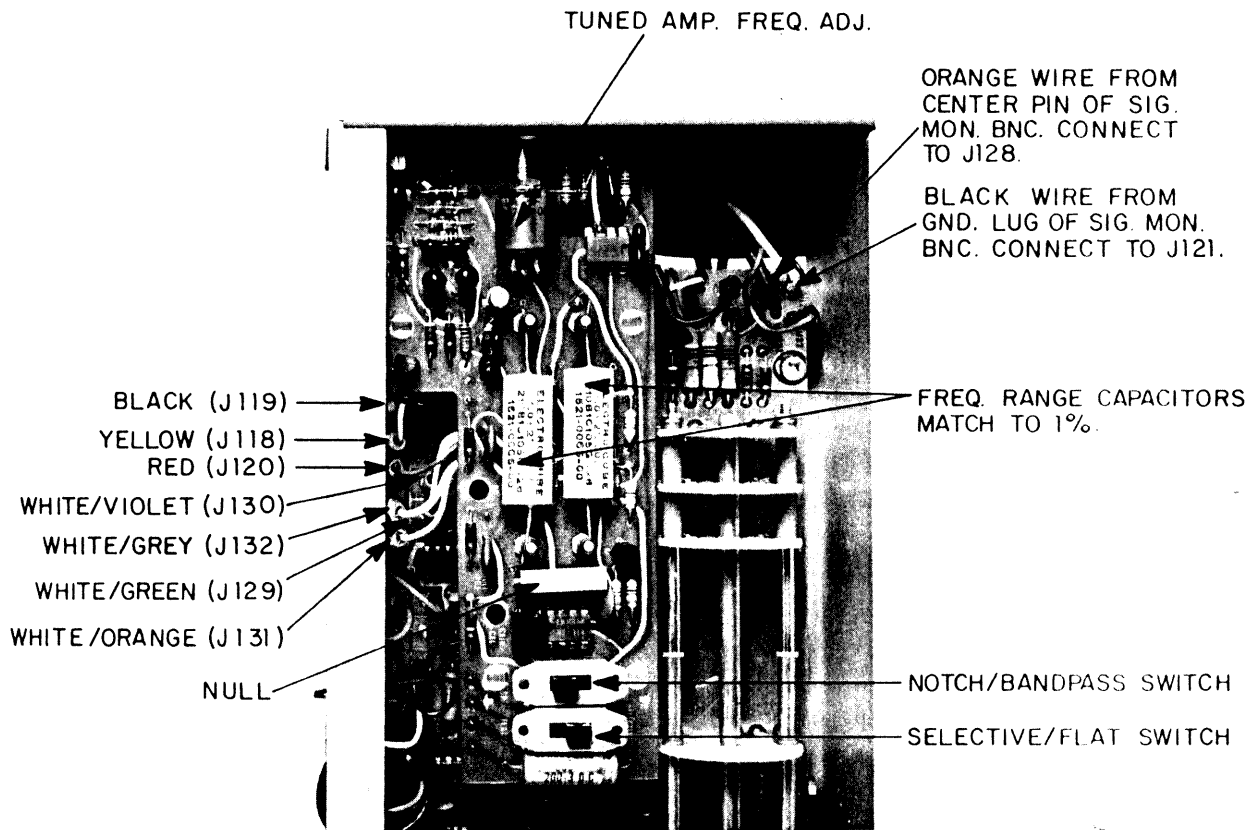

Figure IV-14. TUNED AMPLIFIER INSTALLED
Note from Figure IV-14, a photograph of the Model 128A with the Tuned Amplifier installed, that there are two trim-adjustments and two switches on the Tuned Amplifier
(3) Position the Tuned Amplifier as shown in Figure IV-14 but do not snap it into place yet. (It is easier to make the wire connections first.)
(4) On the Model 128A, remove the jumper (white/orange) which interconnects J129 and J130. Also remove the jumper (white/violet) which interconnects J131 and J132. It may be a good idea to tape these jumpers somewhere to a chassis surface inside the Model 128A to prevent their becoming lost.
(5) Make the wire connections from the Selective Amplifier to the following listed pins.